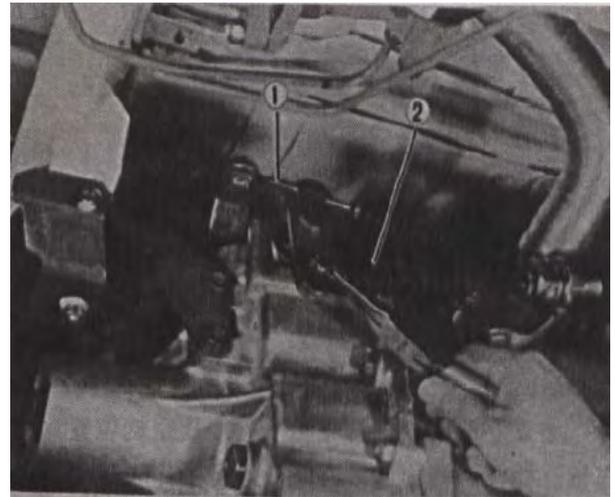

Fig 10-122
- (9) Connect select cable ① and shift cable ② to respective levers, making sure not to confuse them. (FIG.10-122)
- (10) After connecting cables, operate gear shift control lever to check if it shifts and selects each range correctly and smoothly. If it doesn't, refer to MAINTENANCE SERVICE of this section.